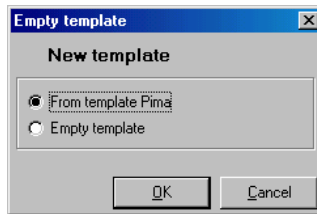

Figure 3 - New Template
- ◆ To create a new blank Template, press the top **New** button. Select **Empty Template** and press the **OK** button (see Figure 3).
- ◆ To create a new template based on an existing one, select the basis template in the list and press the **New** button. Select **From Template <name>** and press the **OK** button (see Figure 3).